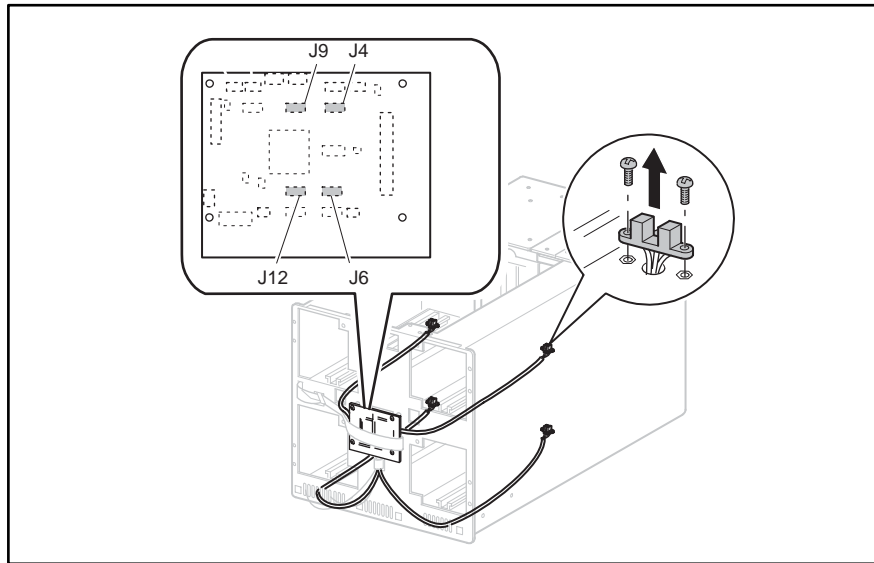

Figure 3-37: Removing a magazine opto sensor
5. Remove the cable at J12 for the upper left magazine sensor or J9 for the upper right magazine sensor (see Figure 3-37):
9. Lift the magazine opto sensor from the magazine track while guiding the cable through the opening in the magazine track (see Figure 3-37).
1. Guide the connector end of the cable through the opening in the magazine track (see Figure 3-37).
2. Replace the two screws that secure the magazine opto sensor to the magazine track. Use the front mounting holes (see Figure 3-37).